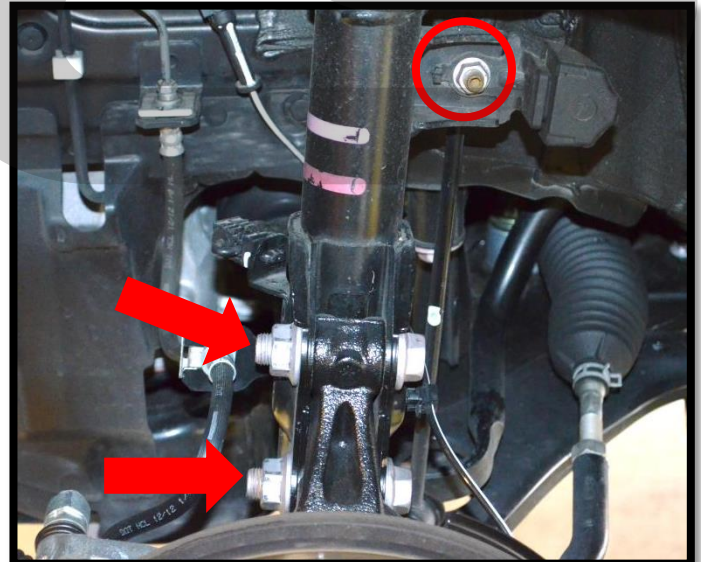

Figure 2e
- d) Remove the sway bar end link from the strut body (Figure 2e).
- e) Remove the two (2) 17mm lower strut bolts using a 17mm socket (red arrows in Figure 2e).
- d) **Remove the sway bar end link** from the strut body using a 14mm socket wrench (red circle in Figure 2e).
- e) **Remove the two (2) 17mm lower strut bolts** using a 17mm socket and 19mm ratcheting wrench (red arrows in Figure 2e).